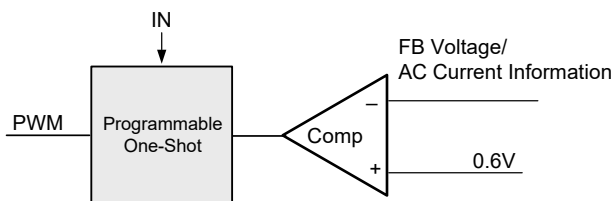

Figure 3. Simplified Control Schematic of AOZ2262NQi-11
The simplified control schematic is shown in Figure 3. The high-side switch on-time is determined solely by a one-shot whose pulse width can be programmed by one external resistor and is inversely proportional to input voltage (IN). The one-shot is triggered when the internal 0.6V is higher than the combined information of FB voltage and the AC current information of inductor, which is processed and obtained through the sensed lower-side MOSFET current once it turns-on. The added AC current information can help the stability of constant-on time control even with pure ceramic output capacitors, which have very low ESR. The AC current information has no DC offset, which does not cause offset with output load change, which is fundamentally different from other V² constant-on time control schemes.